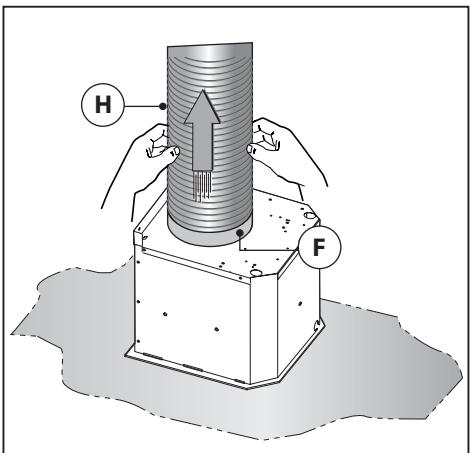

Fig.8
- **Suction version:** fix the air evacuation pipe **H** (not supplied) onto the connection flange **F** (Fig.8). Fix the flexible pipe to the prepared air evacuation hole (Fig.12).
- Fix the air evacuation pipe **H** (not supplied) onto the connection flange **F** (Fig.8).